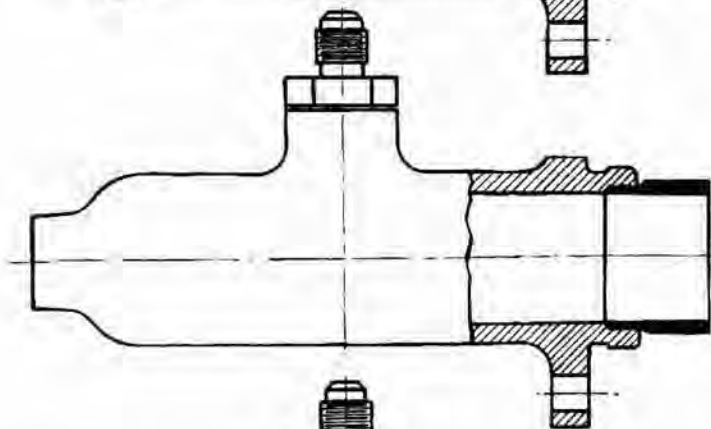

Fig. 9
- (1) Insert valve, spring and master cylinder cup into the cylinder bore.
- (2) Assemble sleeve on to cylinder as shown in Fig. 9.